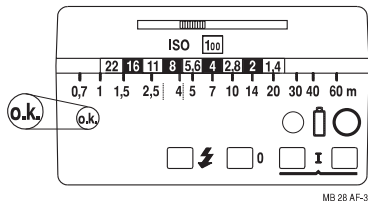

Fig. 3: Exposure o.k. and maximum range
4.3 Correct-exposure indication (see fig. 3)
The maximum range for the selected aperture is indicated underneath the f-stop on the aperture calculator. Example: With ISO 100 and f/4 the maximum flash range is 7 m (see fig. 3). The minimum lighting distance equals approximately 15% of the maximum flash range.